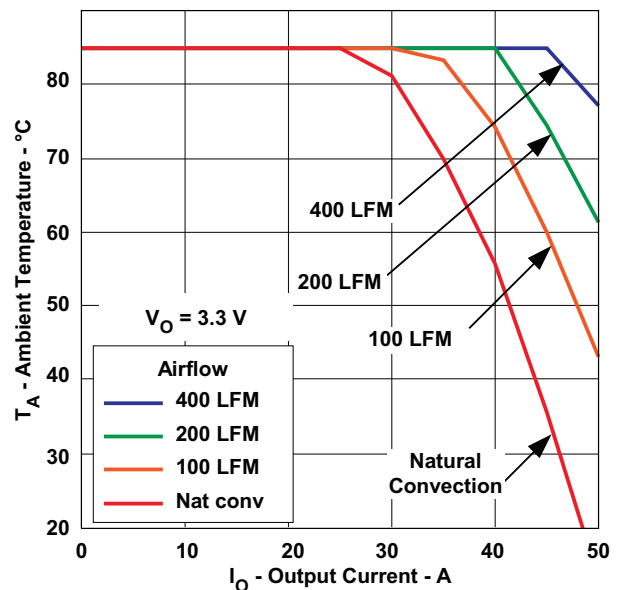
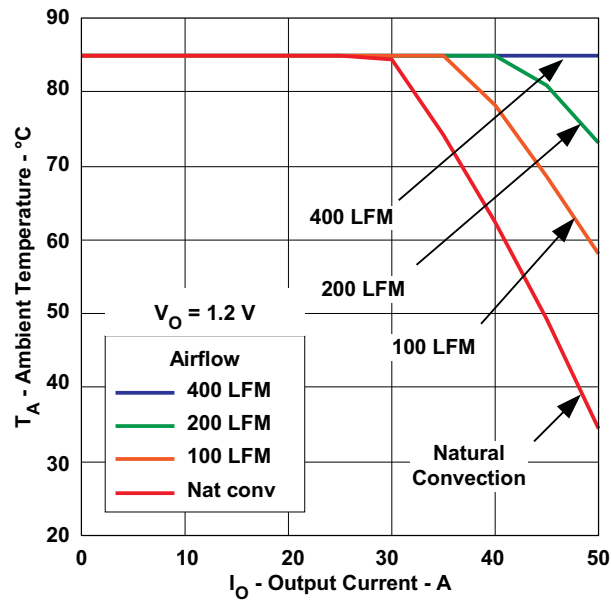

Figure 9. Ambient Temperature vs. Output Current
Figure 10. Ambient Temperature vs. Output Current
(14) The temperature derating curves represent the conditions at which internal components are at or below the manufacturer's maximum operating temperatures. Derating limits apply to modules soldered directly to a 100 mm x 100 mm double-sided PCB with 2 oz. copper and the direction of airflow from pin 10 to pin 22. For surface mount packages (AS and AZ suffix), multiple vias must be utilized. Refer to the mechanical specification for more information. Applies to Figure 9 and Figure 10.